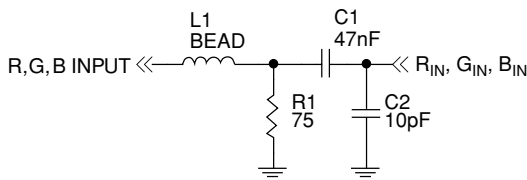

Figure 23. RGB Input Filter Option
5. If necessary, limit bandwidth by adding a ferrite bead in series with each RGB input as shown in Figure 23. A Fair-Rite #2508051217Z0 is recommended. Further bandwidth reduction using a shunt 10pF capacitor may reduce snow (intensity noise) caused by HF noise riding on the RGB input. Mismatches, reflections and noise may cause ringing or distortion of the incoming video signals.